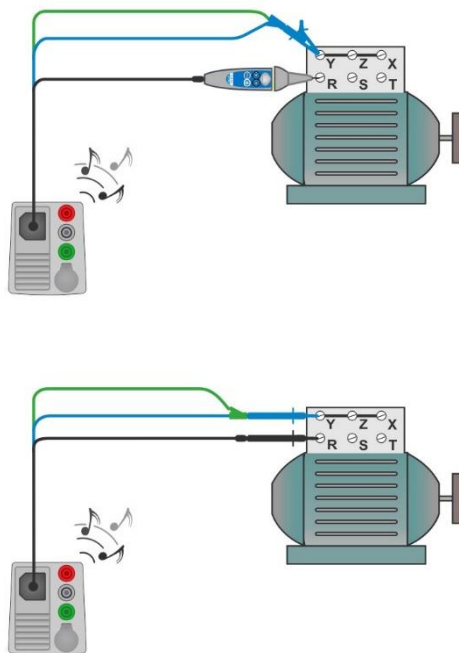

Figure 7.29: Tip commander and 3-wire test lead applications
- ▶ Connect test leads to device under test, see *Figure 7.29*.